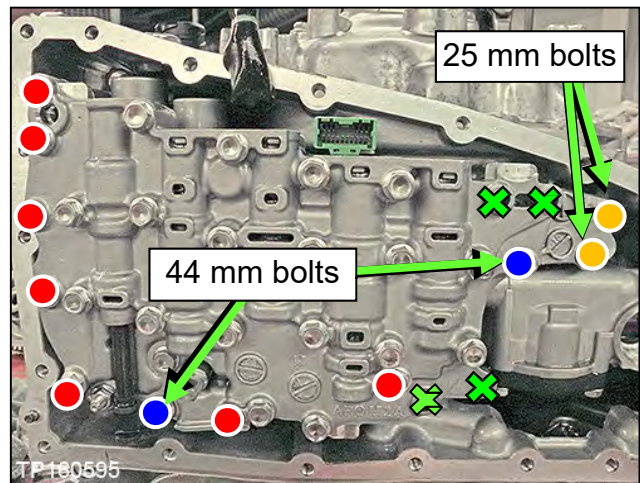
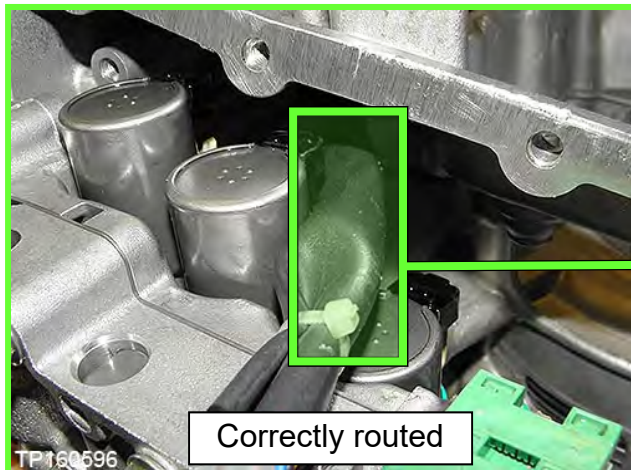
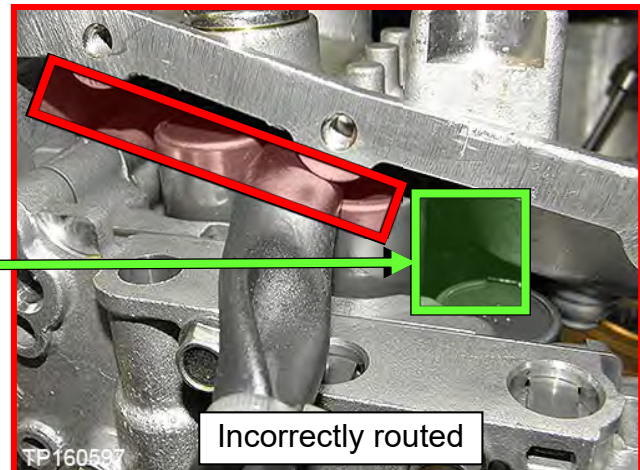

Figure 20
Figure 21
Figure 22
11. Install a new valve body with eleven (11) mounting bolts (Figure 20).
**IMPORTANT:** Leave four (4) ✘ bolt holes empty during this step.
**CAUTION:** Make sure the wiring harness does not get pinched (see Figure 21 and Figure 22 for correct routing).